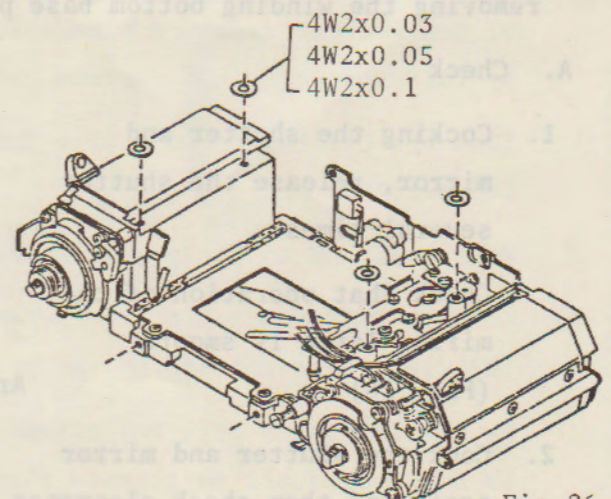

Fig. 26
2. Adjustment is made by putting following washers 4W2x0.03, 0.05 or 0.1 required place which are shown in Fig. 26.